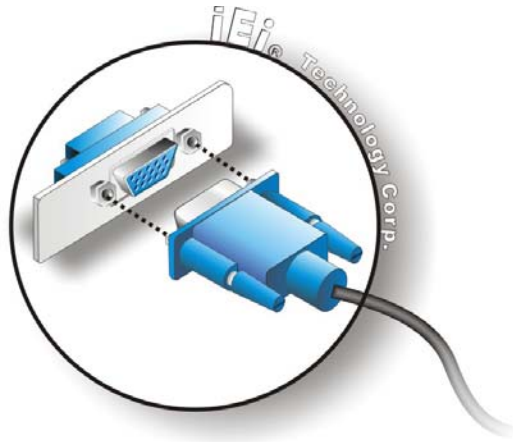

Figure 2-11: VGA Connector
- Step 3:** **Insert the VGA connector** Once the connectors are properly aligned with the insert the male connector from the VGA screen into the female connector on the AFL-W19A/W19B/17D/W15A-GM45. See Figure 2-11.